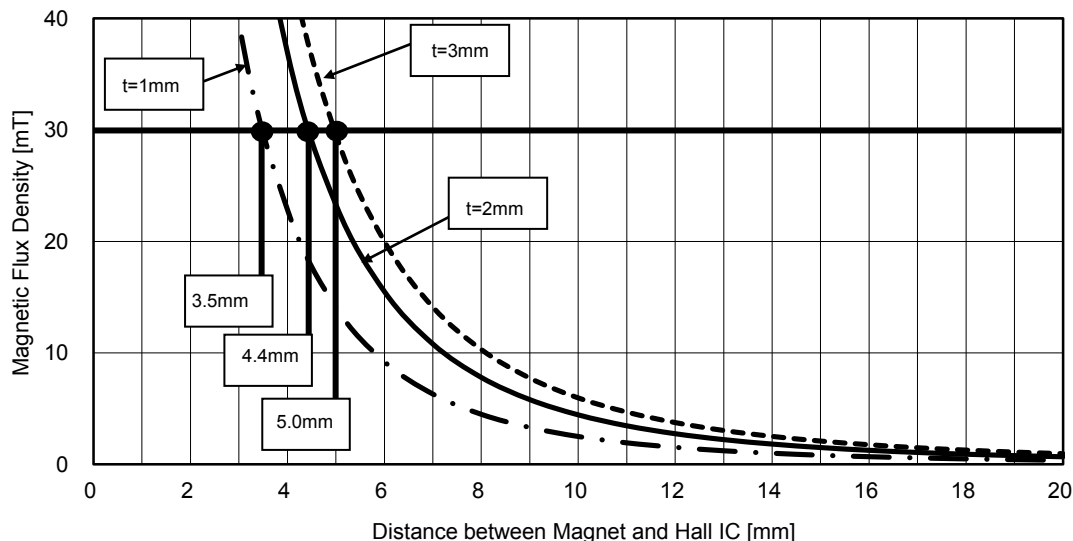

Figure 18. Magnetic Flux Density vs Distance between Magnet and Hall IC
Of the two representative varieties of permanent magnet, neodymium generally offers greater magnetic power per volume than ferrite, thereby enabling the highest degree of miniaturization, thus, neodymium is best suited for small equipment applications. Figure 18 shows the relation between the size (volume) of a neodymium magnet and magnetic flux density. The graph plots the correlation between the distance (L) from three versions of a 4mm x 4mm cross-section neodymium magnet (1mm, 2mm, and 3mm thick) and magnetic flux density. Figure 19 shows Hall IC detection distance – a good guide for determining the proper size and detection distance of the magnet. Based on the BU52078GWZ operating point max of 30.0mT, the minimum detection distance for the 1mm, 2mm and 3mm magnets would be 3.5mm, 4.4mm, and 5.0mm, respectively. To increase the magnet's detection distance, either increases the magnet's thickness or sectional area.